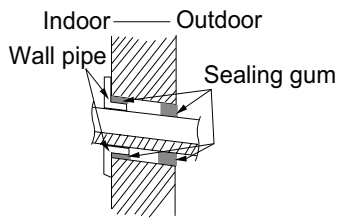

Fig. 16
- (1) Put the bound pipes in the wall pipe and then make them pass through the wall hole.
- (2) Hang the indoor unit on the wall-mounting frame.
- (3) Stuff the gap between pipes and wall hole with sealing gum.
- (4) Fix the wall pipe.(As show in Fig.16)